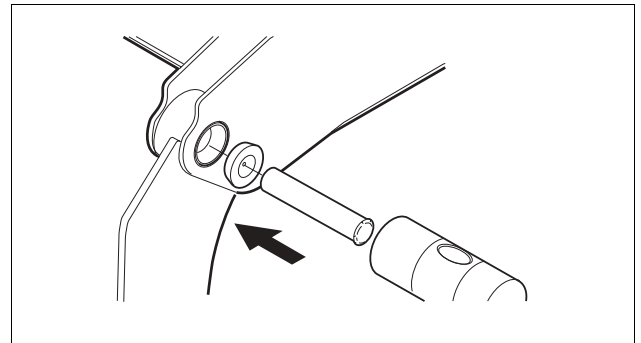

Fig. 44 Strike the pin-joint out
3. Strike out the pin-joint. *See Fig. 44.*